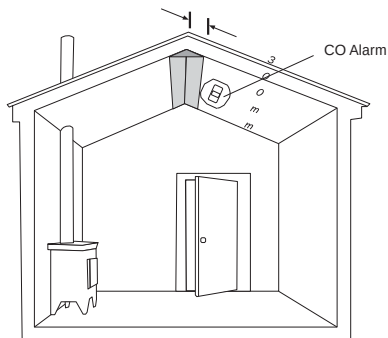

Figure 2
- In rooms with sloped ceilings, the CO Alarm should be located at the high side of the room (see fig 2).